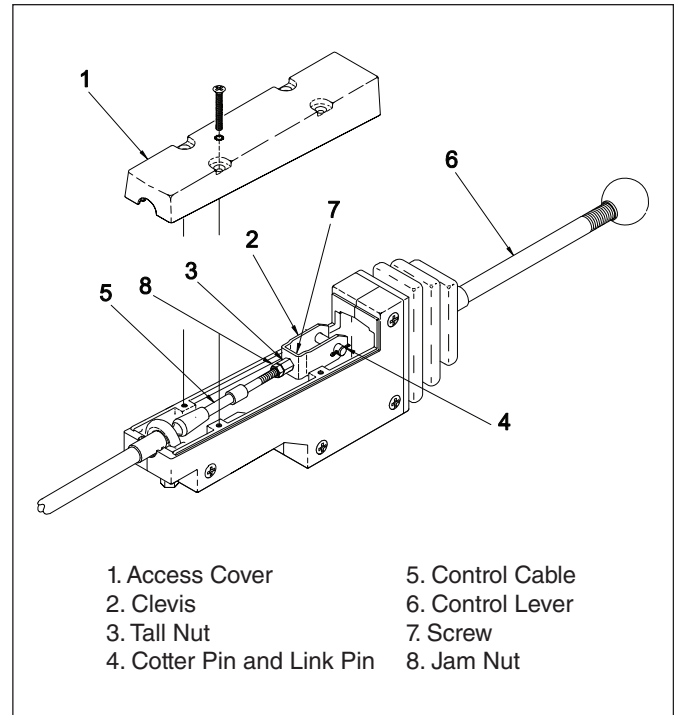

Figure 23 Control Cable Adjustments
**B.** See Figure 23. Make sure the positions of the power control lever are the same as the position indicators on the decal. Remove the access cover (Item 1) on the housing to make adjustments. Loosen the jam nut (Item 8) that keeps the tall nut (Item 3) from turning. Remove the cotter pin and link pin (Item 5) from the clevis (Item 2). Turn the tall nut and clevis to adjust the length of the control cable (Item 5). Use the link pin and cotter pin to connect the clevis to the control handle again and check the operation. When the adjustment is complete, tighten the jam nut and install the access cover.